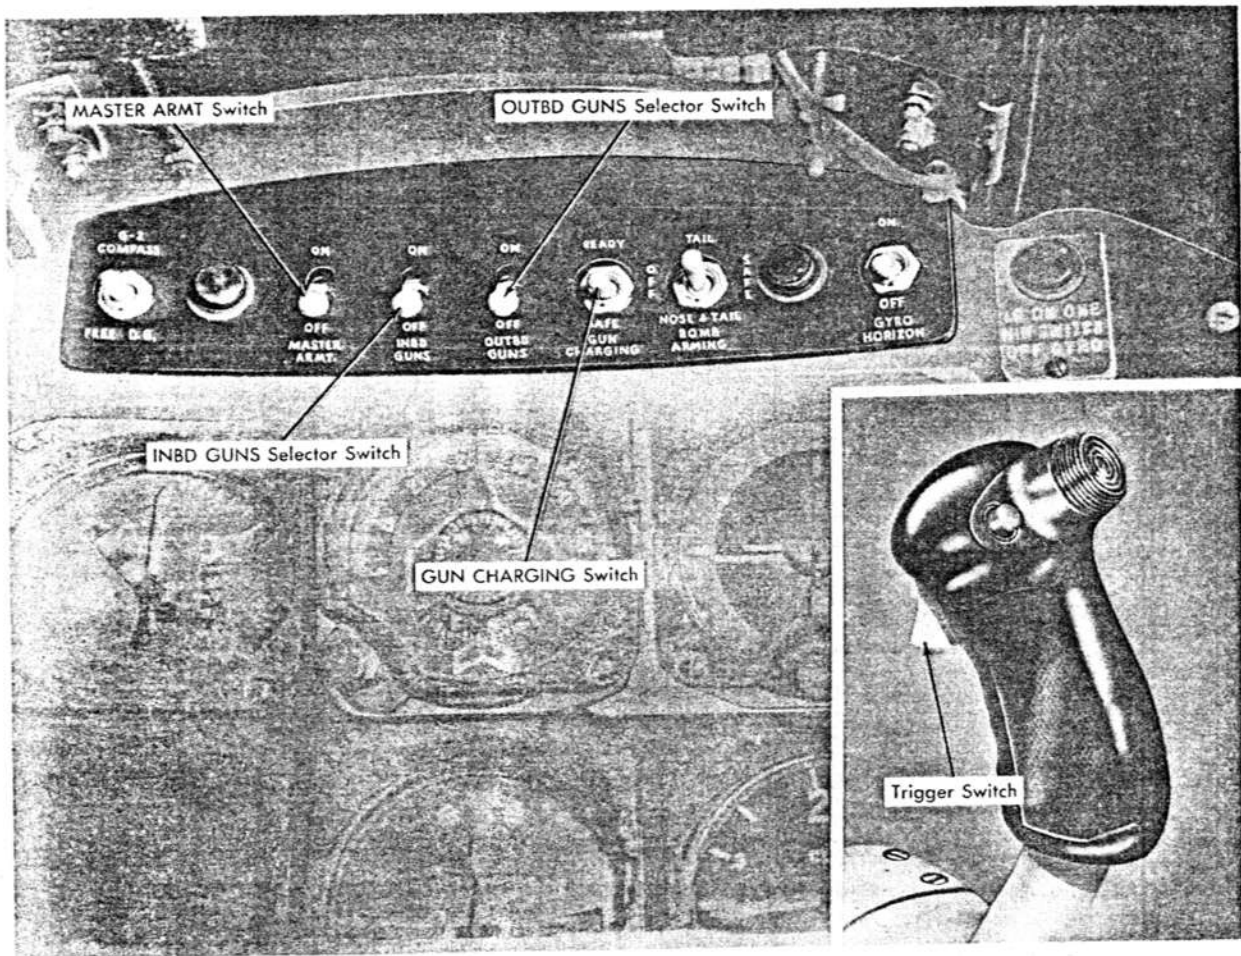

Figure 4-17. Gunnery System Controls
**MASTER ARMAMENT SWITCH.** The MASTER ARMT switch, (figures 4-17 and 4-18) located at the top of the instrument panel, is a circuit-breaker switch with "ON" and "OFF" positions. It energizes the master armament circuit when in the "ON" position. If the switch is "ON" when the arresting hook handle is placed in "DOWN," the guns are set automatically to the safe position. The MASTER ARMT switch flips off automatically when the landing gear handle is placed in "WHEELS DN." For ground firing of guns, the MASTER ARMT switch must be reset; an armament safety disabling switch in the nose wheel well must be depressed first.
**GUN SELECTOR SWITCHES.** The INBD and OUTBD gun selector switches (figure 4-17) permit firing of guns in pairs, rather than simultaneously. The switches, located on top of the instrument panel, have "ON" and "OFF" positions.
**GUN CHARGING SWITCH.** A GUN CHARGING switch (figure 4-17), located on top of the instrument panel, permits charging of the guns. The switch has "SAFE," "OFF," and "READY" positions.
**TRIGGER SWITCH.** The trigger switch (figure 4-17), located on the forward side of the control stick grip, closes the firing circuit to fire the guns.